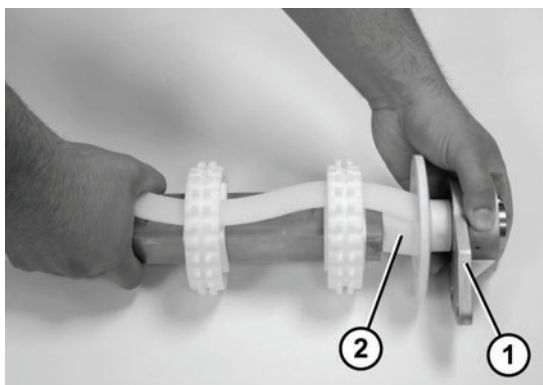

Figure 72
9. Slide the 3 hole flange with bearing (**Figure 72, item 1**) and flanged puck (**Figure 72, item 2**) off the drive spindle.